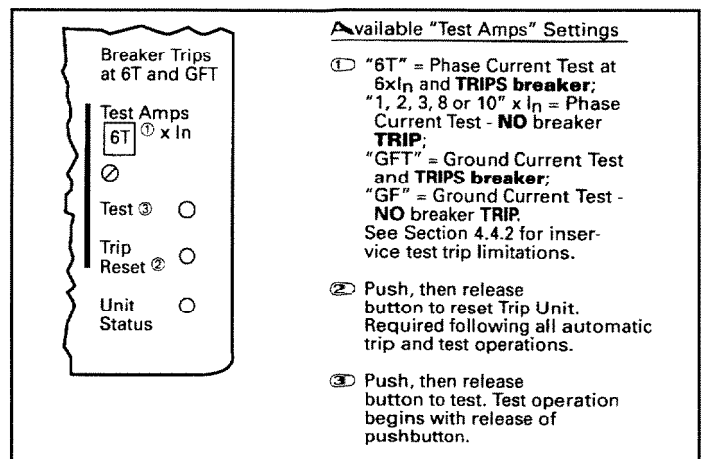

Fig. 9 Integral Test Panel (Lower Right Corner of Trip Unit)
As indicated in Fig. 9, note 1, six different “Test Amps” settings (1, 2, 3, 6T, 8 and 10 x I_n) are available for testing the phase elements of the Trip Unit, and two settings (GF and GFT) are provided for testing the ground element.
1. Place the "TEST AMPS" selector switch (see Fig. 9) in one of the six "No Trip" test settings, i.e., 1, 2, 3, 8, or 10 x I_n , or GF.
4. Reset the Trip Unit by pressing and releasing the "TRIP RESET" push-button; all LEDs lighted by the "No-Trip" test action should turn "OFF", and the display will again show the value of the current through the breaker. In the event that no one resets the Trip Unit after a test, it will wait for about three (3) hours, and then it will automatically revert back to its pre-test status.
2. Place the "TEST AMPS" selector switch (See Fig. 9) in either the "6T" (or "GFT") position.
3. Press and release the (Black) "TEST" push-button (See Fig. 9) — the test starts when the push-button is released and the elapsed time is displayed in the window.
5. Reset the Trip Unit by pressing and releasing the "Trip Reset" push-button (See Fig. 9). All LEDs lighted by the "Trip" test action should turn "OFF", and the display window will again show the value of current flowing in the breaker.